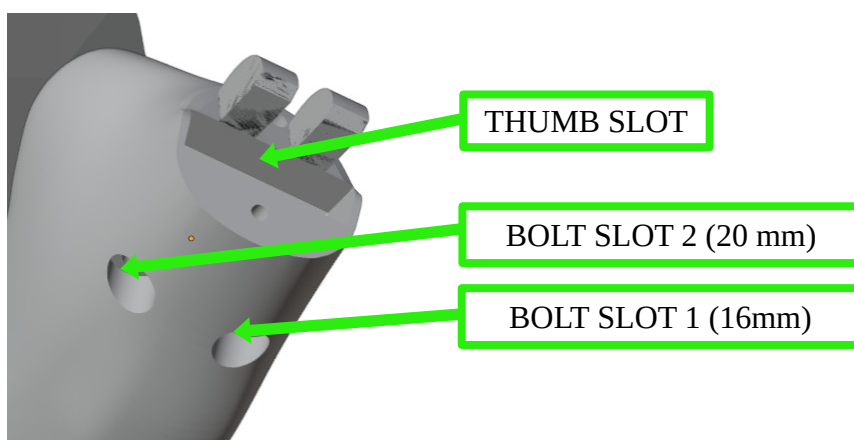
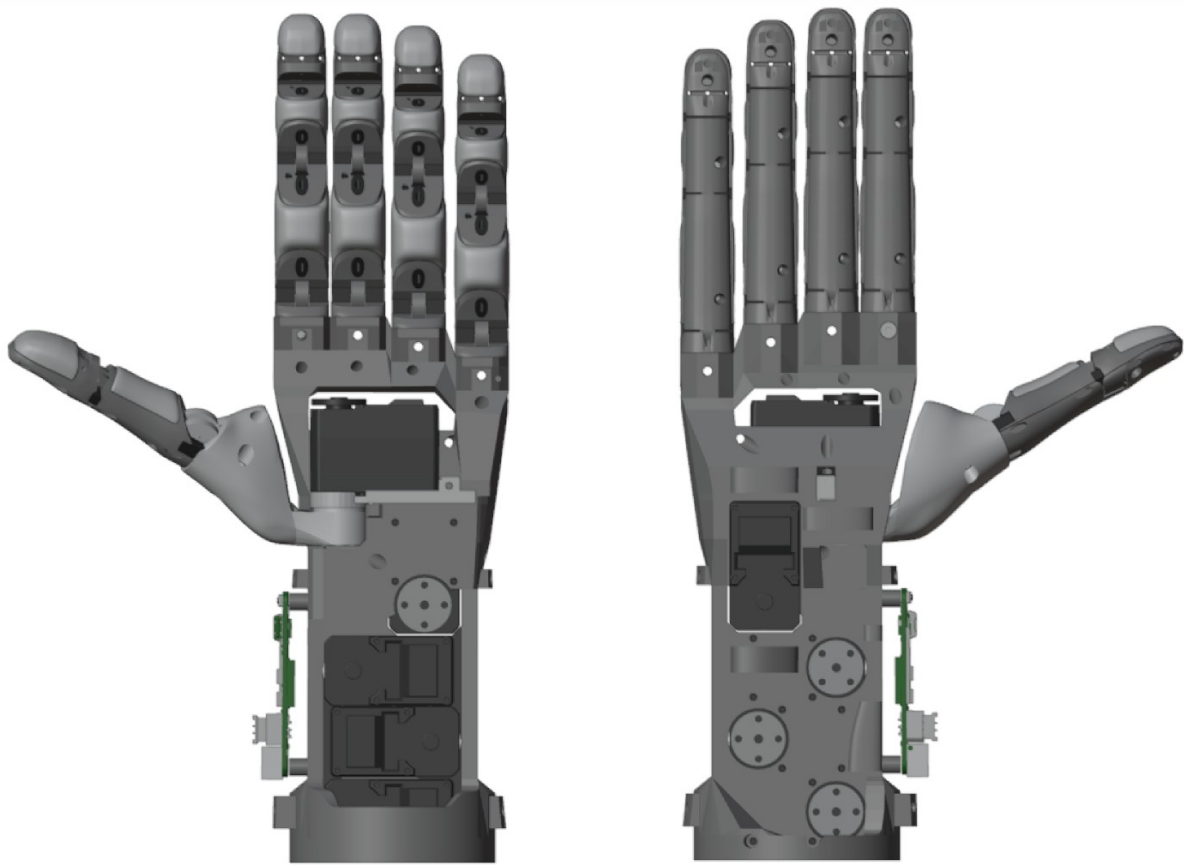

Figure 5.20: Thumb slot and bolt slots
Figure 5.22: Fingers installed, front/rear view
1. Insert the PTFE tube into the outlet hole (on the rear of the skeleton) of the flexion tendon (figure 5.20), let it come out through the inlet hole on the front of the skeleton and insert it into the initial slot (figure 5.22)